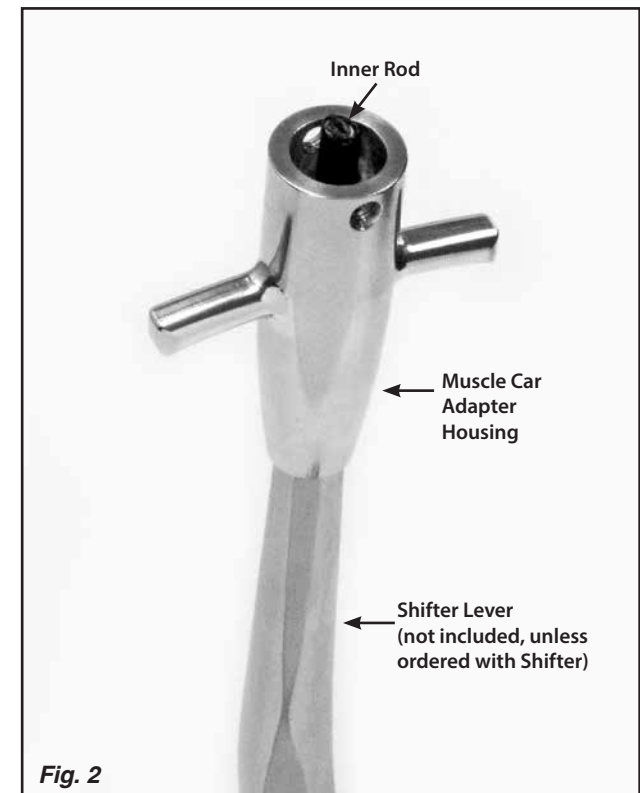

Fig. 2
**Step 2:** Install the muscle car adapter housing onto your shifter lever, threading it all the way down until it bottoms out. Fig. 2